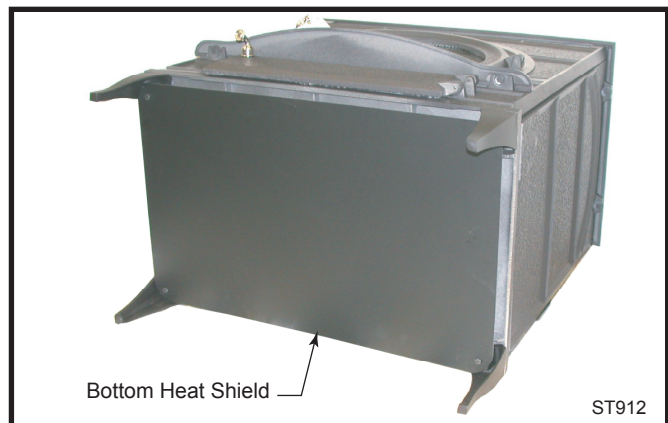

Fig. 20 Bottom heat shield in place on bottom of stove.
5. Adjust the bracket's position on each leg as needed until the shield fits. (Fig. 20)